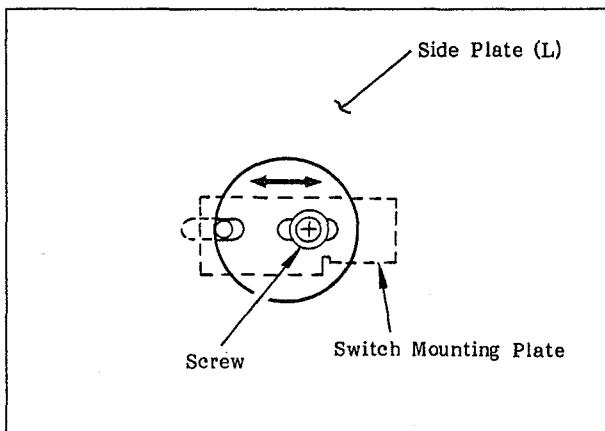
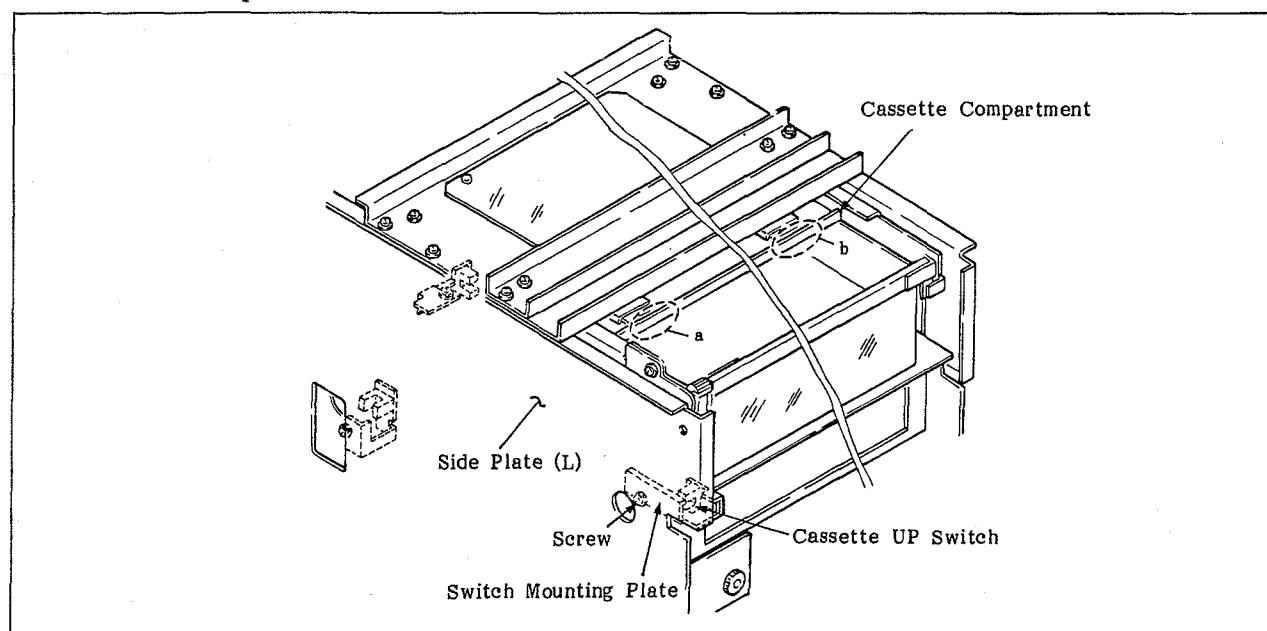

Fig. 6-21 Adjusting the Position of the Cassette UP Switch
Fig. 6-20 Cassette UP Switch
25. Press the [TEST], [F3](CHECKER), [F1](CONTINUE), [F3] (c), [4], [SET], [F5] (E) , [8], [SET] keys on the control panel in that order to set the machine in the data check mode.
27. Confirm that there is no play in either portion a or portion b of the compartment shown in Figure 6-20. If there are plays in both portions a and b, loosen the screw that holds the switch mounting plate by a half or one turn, and then slide the switch mounting plate into the direction of the arrow shown in Figure 6-21 by about 0.5 mm. Repeat steps 26 and 27 until the play of the cassette compartment is eliminated.